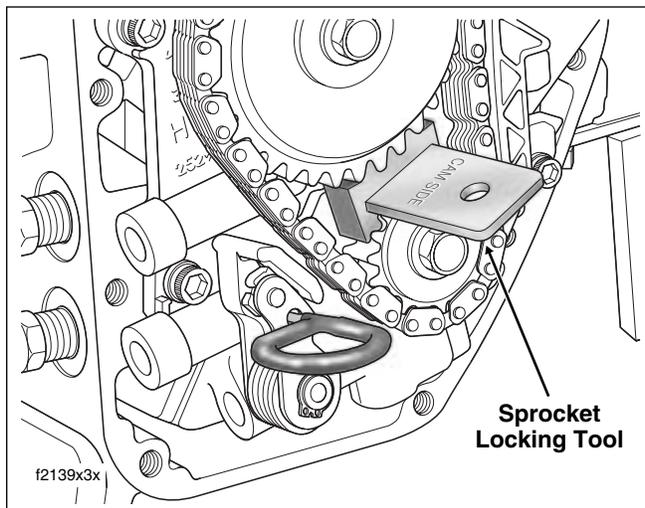

Figure 3-52. Lock Crank and Primary Cam Sprockets Before Tightening Flange Bolts
- c. To prevent rotation, position the CRANKSHAFT/CAMSHAFT SPROCKET LOCKING TOOL (HD-42314) between the crank and primary cam sprockets. See Figure 3-52. The handle of the tool is stamped “Crank” and “Cam” to ensure proper orientation. Tighten the crank and primary cam sprocket flange bolts to 15 ft-lbs (20.3 Nm). Remove the sprocket locking tool.
- h. Position CRANKSHAFT/CAMSHAFT SPROCKET LOCKING TOOL (HD-42314) between the crank and primary cam sprockets to prevent rotation. See Figure 3-52. The handle of the tool is stamped "Crank" and "Cam" to ensure proper orientation.